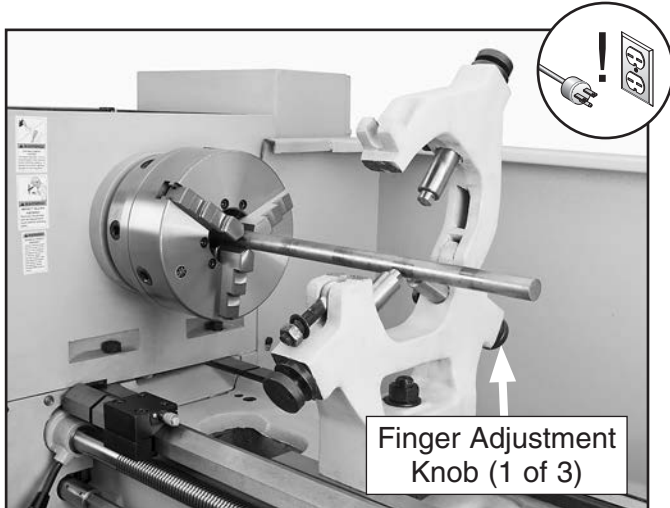

Figure 47. Example of workpiece mounted in steady rest.
- Loosen clamp knob that secures top half of steady rest, and open top, as shown in **Figure 47**.
- Use finger adjustment knobs to position bottom two fingers so they barely touch workpiece, as shown in **Figure 47**.